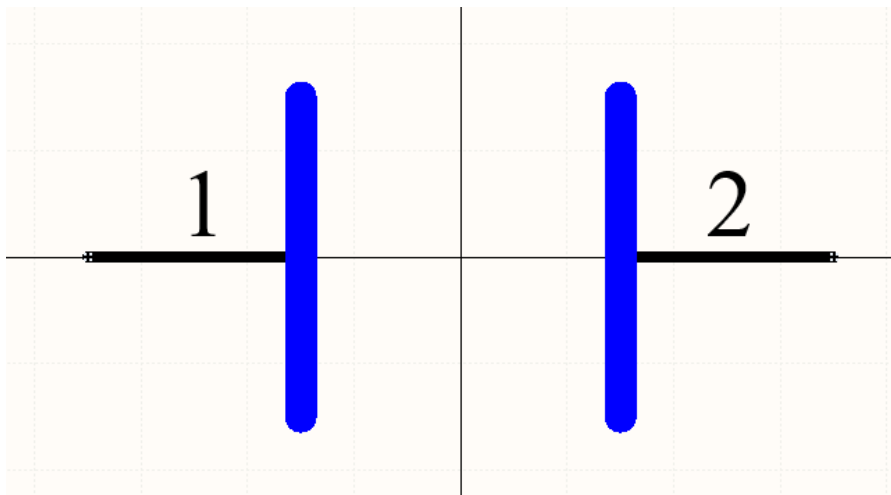

Figure 16. Add Lines to Crystal Symbol
- Draw the 2 lines similar to what is shown in Figure 16.